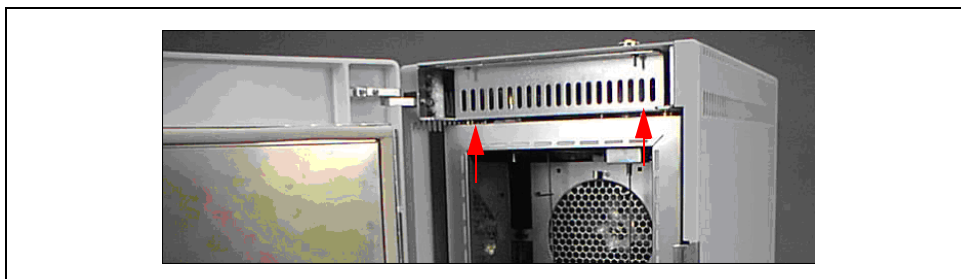

Figure 15-22. Top Aluminium Cover Removal
2. Unscrew the two front screws, as shown in Figure 15-22, which remain on the main unit.